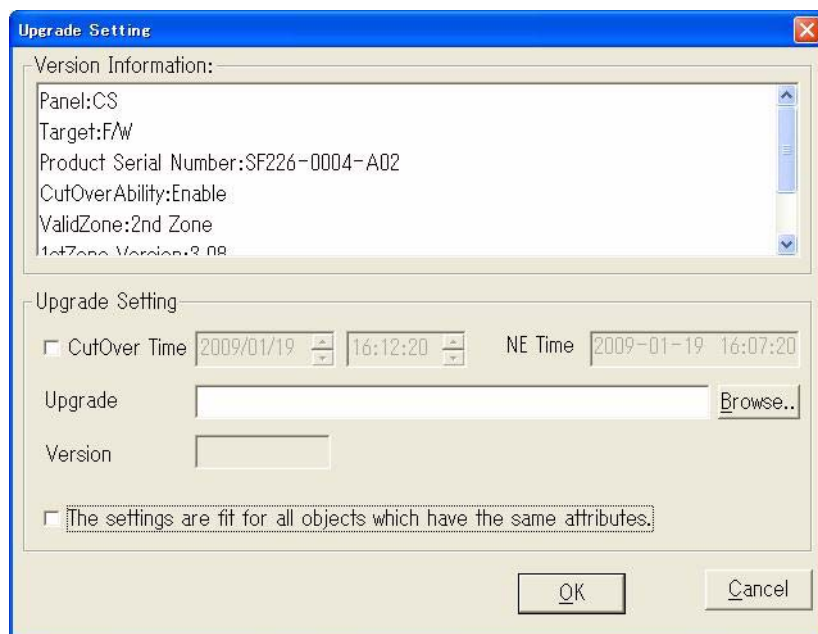

Fig. 4-10-12 Upgrade Setting Dialog Box
- 8 Click the **Set Upgrade** button. The **Upgrade Setting** dialog box shown in *Fig. 4-10-12* appears for browsing: